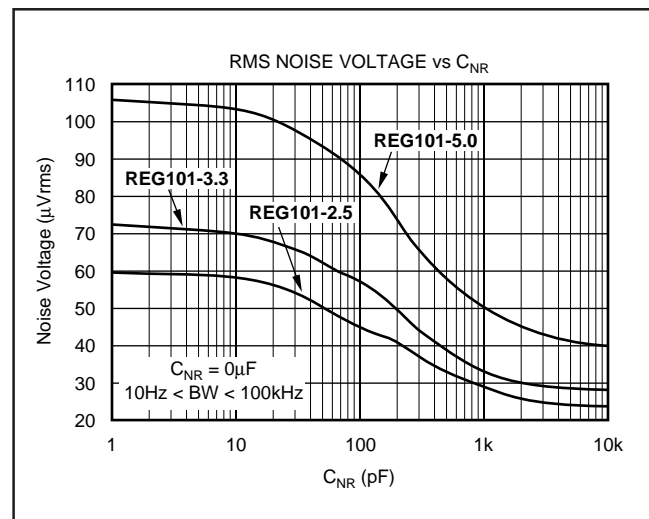
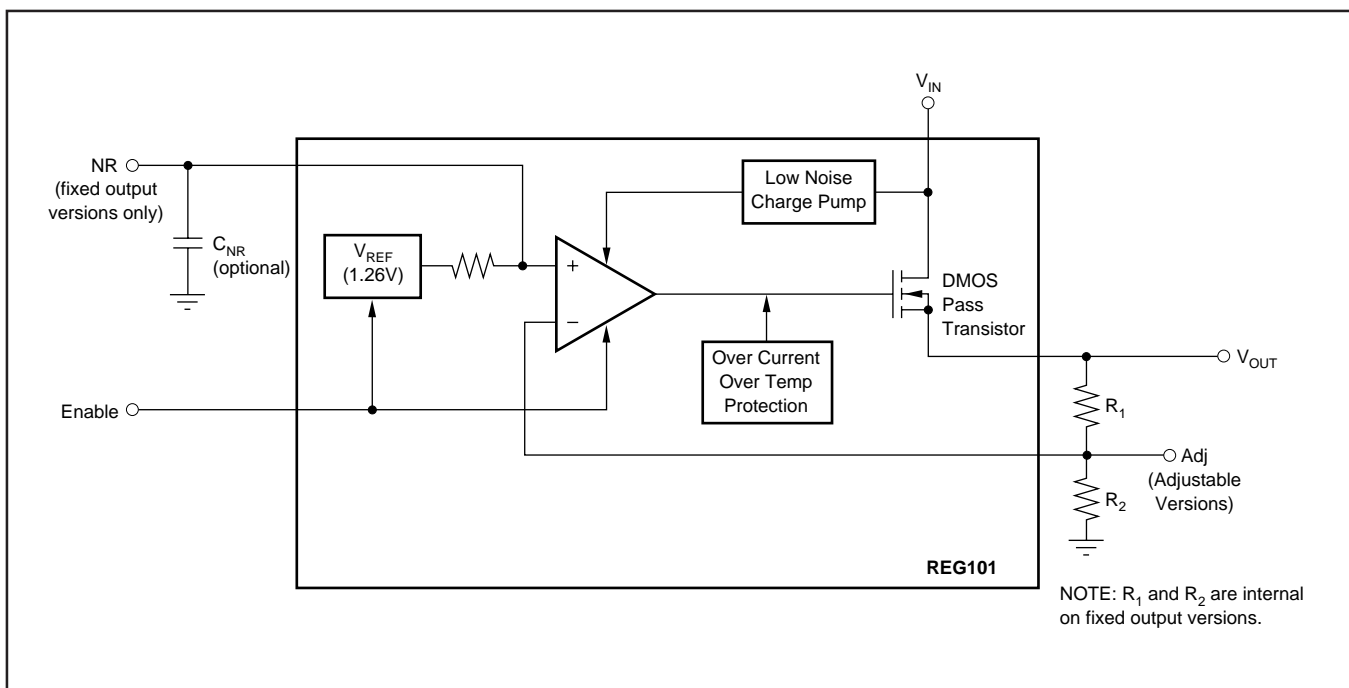

FIGURE 5. Output Noise versus Noise Reduction Capacitor.
FIGURE 4. Block Diagram.
Connecting a capacitor, C_{NR} , from the Noise Reduction (NR) pin to ground, as shown in Figure 4, forms a low-pass filter for the voltage reference. For $C_{NR} = 10nF$, the total noise in the 10Hz to 100kHz bandwidth is reduced by approximately a factor of 2.8 for $V_O = 3.3V$. This noise reduction effect is shown in Figure 5 and as “RMS Noise Voltage vs C_{NR} ” in the Typical Characteristics section.